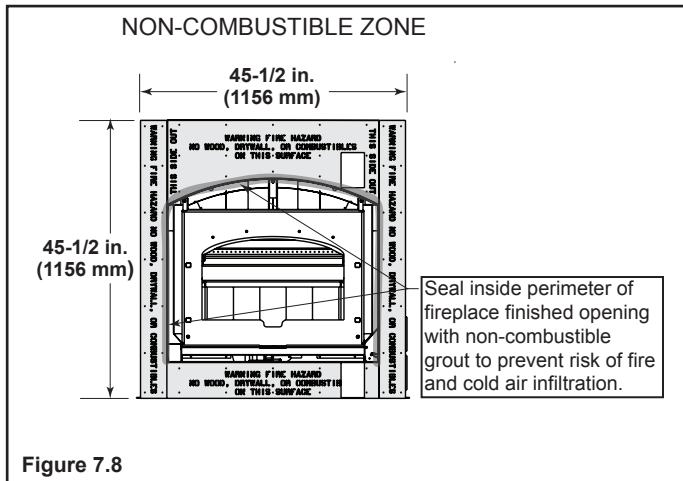

Figure 7.8
- A bead of non-combustible sealant (or Super Calstick) must be used to close off any gaps at the top and sides between the fireplace and non-combustible facing (Figure 7.8) to prevent cold air leaks and the risk of fire. Large gaps can be bridged with fiberglass rope gasket.